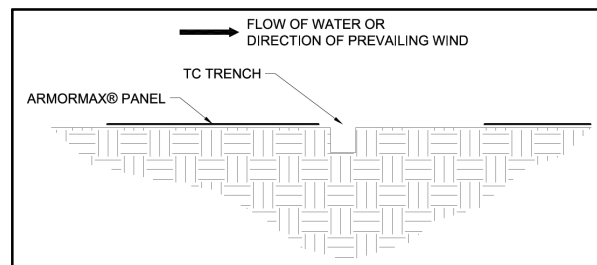
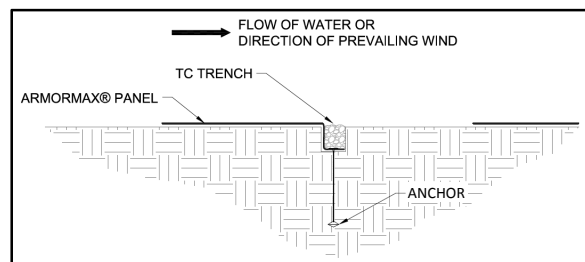

Figure 17: Terminal Channel (TC) Trench Alignment
Figure 18: Terminal Channel (TC) Trench Placement
15. Lay the ARMORMAX panel on the upstream side of the TC trench (Figure 17). Place the panel edge in the TC trench, ensuring full coverage along the bottom of the entire TC trench with the ARMORMAX (Figure 18).
16. Secure ARMORMAX with pins and ANCHORS in the TC trench. Suggested placement of pins and anchors for the TC trench is along the bottom of the trench with pins on 12 in (300 mm) centers in between anchors on 5 ft (1.5 m) centers (Figure 18).